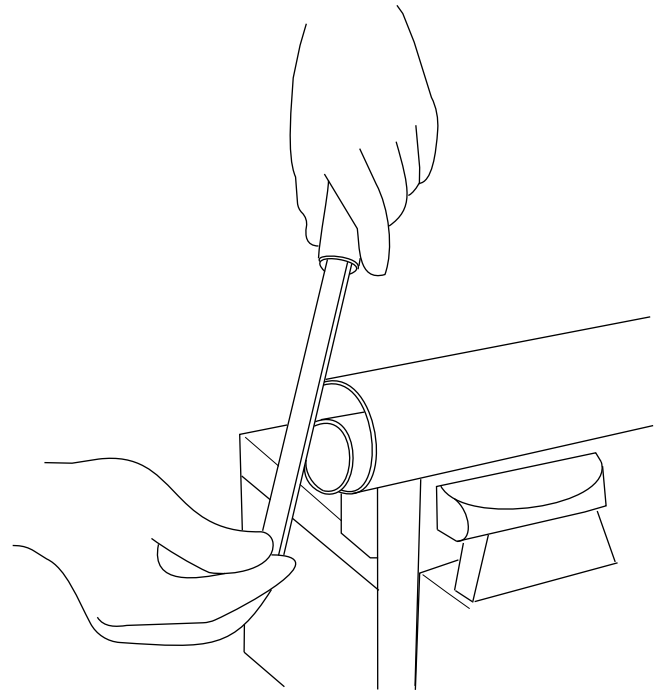

Figure 15
8. Deburr the ends of the sections (Figure 15).